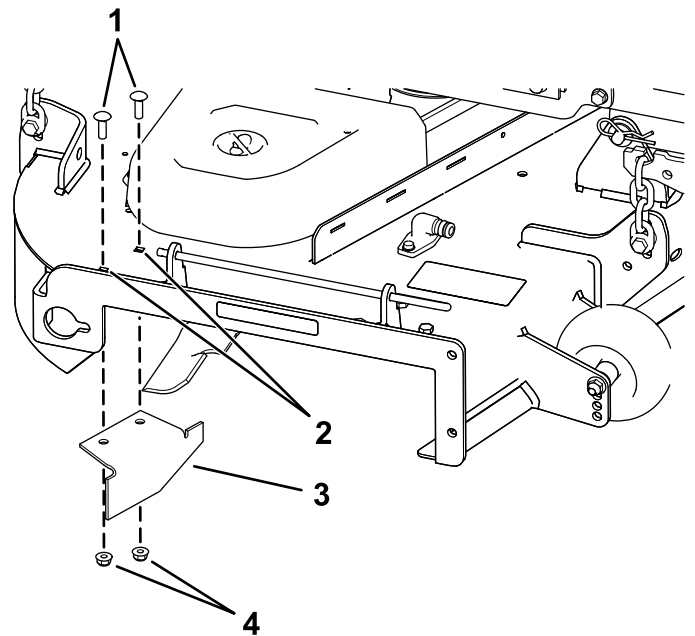

Figure 38
14. Locate the cutoff baffle in the loose parts bag, remove the fasteners at the rear holes of the discharge plate, and install the baffle at the side-discharge opening on the mower deck (Figure 38).